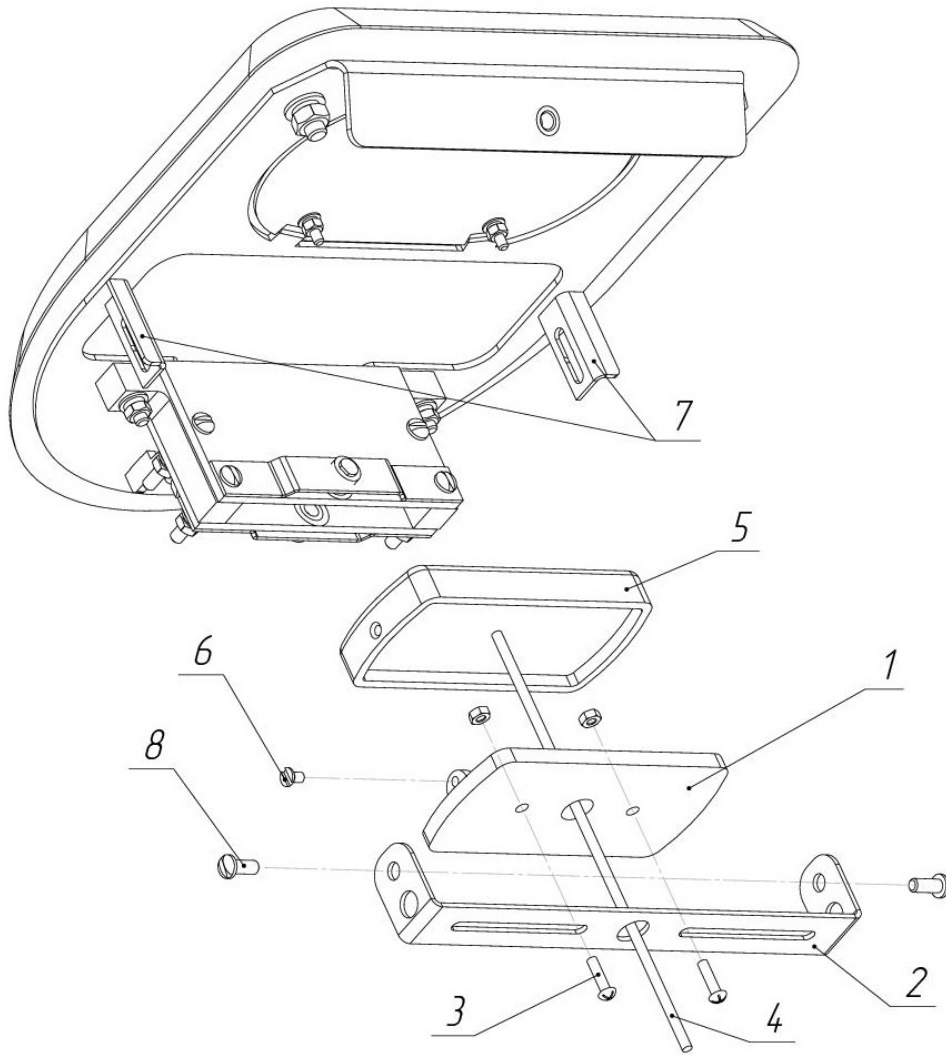
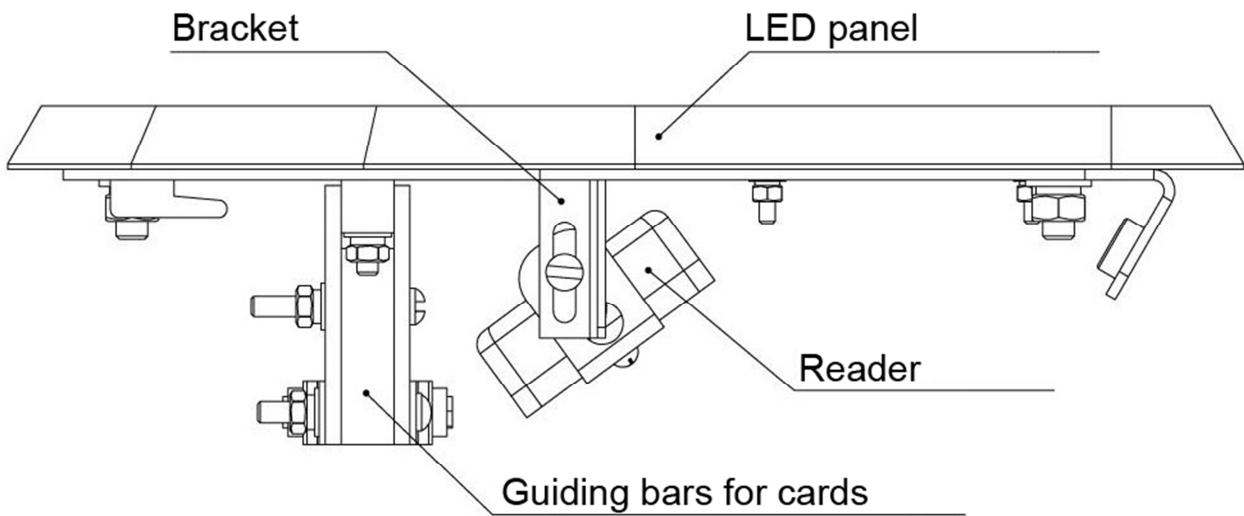

Fig. 18. Installation of proximity card reader
Fig. 19 Recommended option for card reader installation
6.5.3. Remove two M4 screws (8, Fig. 18) and remove the universal bracket for readers (2, Fig. 18).
6.5.4. Disassemble the reader, removing the M3 screw (6, Fig. 18), and set its lower part (1, Fig. 18) on the bracket using the two M4 screws with nuts, washers and lockwashers (3, Fig. 18) .
6.5.5. Put the cable (4, Fig. 18) in the bracket hole, install the top cover of the reader (5, Fig. 18). Tighten the M3 screw (6, Fig. 18).
6.5.6. Fix the bracket to clips (7, fig. 18) using the M4 screws (8, Fig. 18). It is recommended to install a reader at an angle of 40 ... 50° to guiding bars for cards (Fig. 19). In this case, the guest and permanent card will be read equally well.
The RC panel uses modern CAN2.0 noise-immune bus. According to CAN2.0 standard signal cable length can exceed one kilometer, however correct operation on these distances depends on many factors. Always use Cat5e or Cat6 twisted pair at distances exceeding 25 meters. The total electrical resistance of DC power supply wire shall not exceed 50 ohms. If this requirement cannot be met an additional 12V / 100mA power supply unit (minimum operating voltage of PU - 7.5V). There are 3wires - CL, CH, GND - enough for the correct operation of the turnstile. In this case the power supply wire from the PU to the turnstile is not required. See Fig. 18. Two RC panels can be connected to the same turnstile.